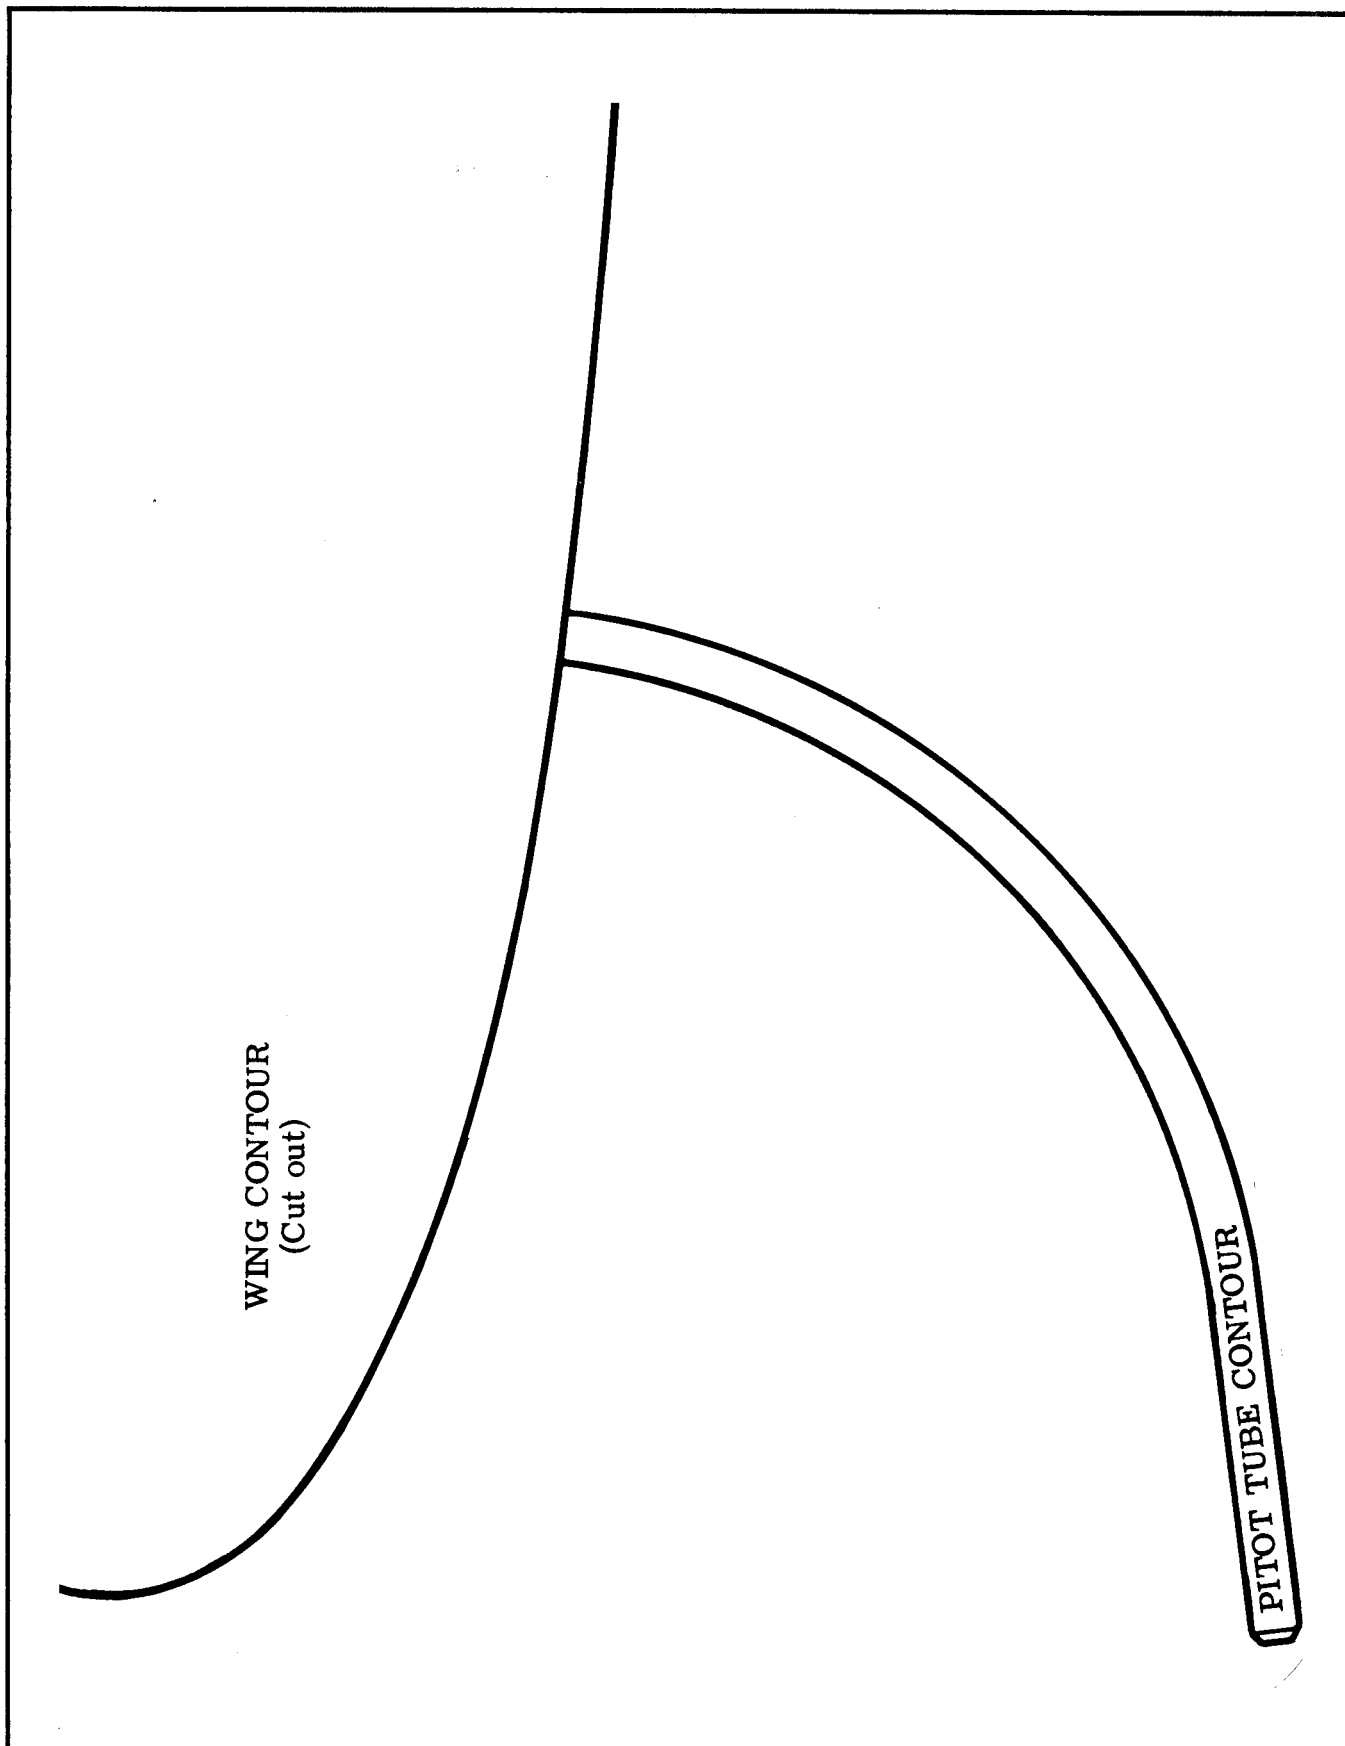

Figure 15-4. Pitot Tube Alignment Template
15-23. PITOT TUBE ALIGNMENT. (Refer to figure 15-2.) For correct airspeed indication pitot tube (18) must be properly aligned. Open end of tube must be perpendicular to longitudinal axis of aircraft. A template like the one shown in figure 15-4 will prove the most convenient means of checking alignment. Prior to using template, check that pitot tube parallels row of rivets just outboard of tube. A straightedge may be placed along row of rivets to check the alignment. The template fits over the wing leading edge and should conform to the illustration. The illustration has been drawn carefully to actual size and may be traced directly on a piece of carbon paper between the printed page and the template material, the contours can be traced.